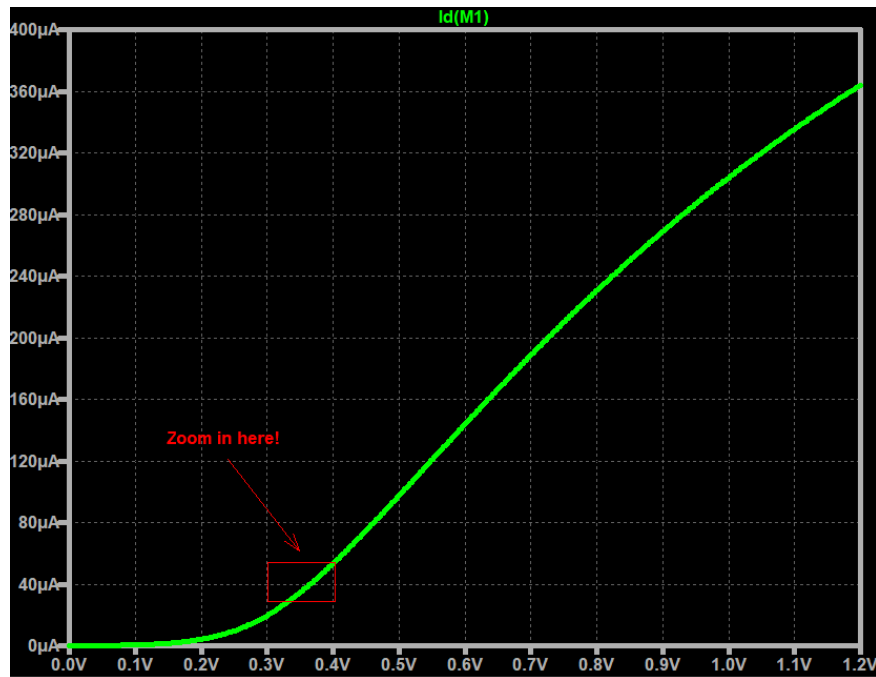
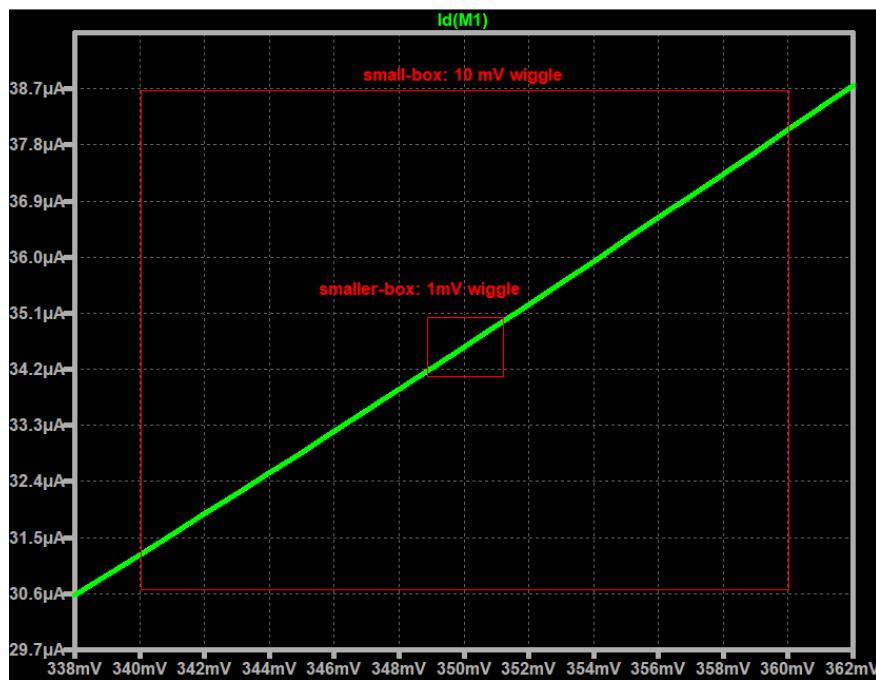
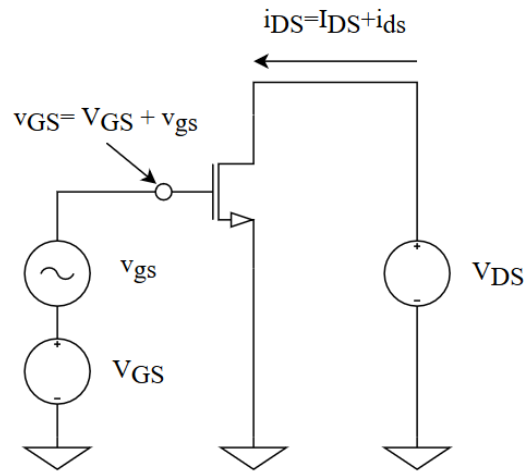

Figure 2.3 Zoom in indicator
Figure 2.4 Zoomed-in scope.  $I_{DS}$  and  $V_{GS}$  become linear!
Figure 2.5 Depiction of what small-signal input  $v_{gs}$  influencing the output current  $i_{DS}$
*Small-signal analysis tells us that “small-signal” inputs to our transistors make our transistors look linear by looking in a very small region only. Mathematically, we are taking the derivative.* If they become linear, then we can apply Ohm’s law! To see this in action, let’s say we want to zoom into the current region in between 0.34V and 0.36V. Figure 2.3 points to the region where we want to zoom into. If we zoom in and take a closer look, we have Figure 2.4.
Figure 2.4 makes our transistor look linear only at the very small region (i.e.  $< 10\text{ mV}$ ). Therefore, we can conveniently apply Ohm's Law. Make sure to always remember: (1) *transistors are non-linear devices*, (2) *small-signal makes them "look" linear*. This is the most intuitive visualization on why small-signal analysis is important.
Alternatively, *small-signal analysis* describes how our output currents and voltages change at a given bias. Figure 2.5 shows that small-signal inputs and outputs are superimposed (added) to the main biasing sources. Small-signal characteristics change whenever our *biasing point* changes. For example, Figure 2.4 shows the linear region in the region close to  $V_{GS} = 0.35\text{ V}$  (in the range  $0.34\text{ V} \leq V_{GS} \leq 0.36\text{ V}$ ). If we take a different region, say  $1\text{ V} \leq V_{GS} \leq 1.1\text{ V}$  we are most likely going to get a slope of our linear region in Figure 2.4.
Figure 2.5 shows that the small-signal  $v_{gs}$  is superimposed (added) to the DC source  $V_{GS}$ . Most of the time, we consider  $v_{gs}$  to be small-signal when  $v_{gs} \leq 10\text{ mV}$ . Go beyond  $10\text{ mV}$  and the linear region won't look so linear anymore. The larger box in Figure 2.4 shows the  $10\text{ mV}$  boxed-region that looks linear but you can still see some artifacts at the far end corners where  $I_{DS}$  starts to curve a bit. The  $1\text{ mV}$  boxed region shows the greatest linearity. *The smaller the signal, the more linear we can get.* In most cases any input  $\leq 10\text{ mV}$  is enough. Ideally, if these small-signal inputs are small enough, they DO NOT change the INPUT DC operating points but it can change the output DC (i.e.  $V_{OUT} = V_{DS}$ ). For example, if  $V_{GS} = 350\text{ mV}$  and  $v_{gs} = 1\text{ mV}$  sinusoid, then  $v_{GS} = 350\text{ mV} \pm 1\text{ mV} \approx 350\text{ mV}$ . *If DC sources don't change so much, then in perspective of small-signal circuit models we short all DC voltage sources and open all DC current sources.* Moreover, when we apply a small-signal input, there is a corresponding small-signal change at the output. For example, applying some  $v_{gs}$  input produces an output current change  $i_{ds}$  that is super-imposed on  $I_{DS}$  (hence  $i_{DS} = I_{DS} + i_{ds}$ ). Sometimes, the output *can* change the output DC operating point too as we will see later on. Spoiler alert: you should recognize by now that the resulting  $i_{ds}$  for a given input  $v_{gs}$  is the transconductance:  $i_{ds} = g_m v_{gs}$ .
Additionally, it's important to understand that when we do small-signal analysis, we analyze how a small-signal change at the inputs produces a small-signal change at the output. In Figure 2.5, observe how the  $v_{gs}$  is added to  $V_{GS}$ . Again, when the small-signal input  $v_{gs}$  is applied, it produces a small-signal output current  $i_{ds}$  and this also sits on top of  $I_{DS}$ . For example, let's say our input DC operating point is  $V_{GS} = 0.35\text{ V}$  and this produces some  $I_{DS} = 30\text{ }\mu\text{A}$ . Let's say we want to add  $v_{gs} = \pm 10\text{ mV}$  and say  $g_m = 300\text{ }\mu\text{S}$  then  $i_{ds} = (\pm 10\text{ mV}) \times (300\text{ }\mu\text{S}) = \pm 3\text{ }\mu\text{A}$ . This means that  $v_{GS} = 340\text{ mV}$  and  $v_{GS} = 360\text{ mV}$  ( $v_{GS} = V_{GS} + v_{gs}$ ), produces the total output currents  $i_{DS} = 27\text{ }\mu\text{A}$  and  $i_{DS} = 33\text{ }\mu\text{A}$ , respectively ( $i_{DS} = I_{DS} + i_{ds}$ ). Make sure this concept is clear. DC and small-signal analysis are analyzed separately but the effects are combined into one.